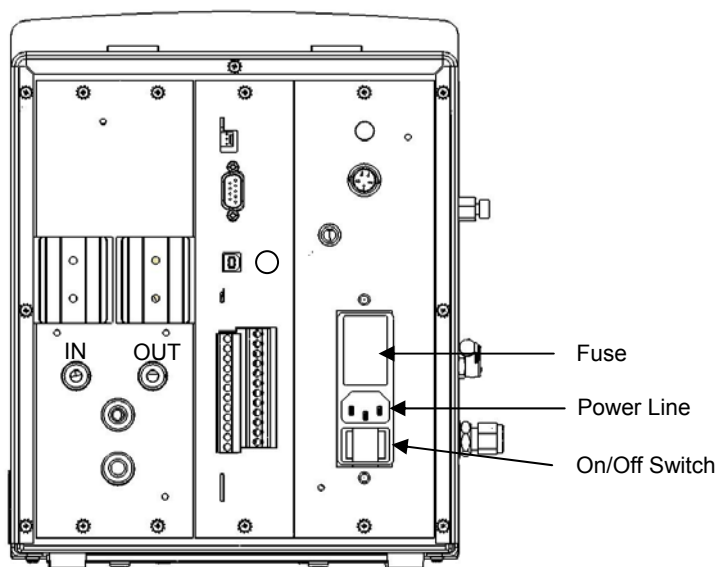
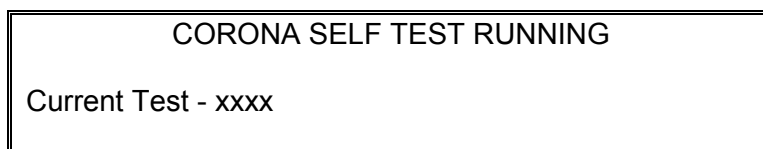

Figure 2-2: Rear Panel - Corona CAD Detector
Figure 2-12: The Corona Self Test Running Screen
Connect the power cord to the back of the system (Figure 2-2) and into a grounded outlet.
- a) Turn on the detector using the On/Off switch (located on the back of the detector Figure 2-2) and allow it to perform a Self Test. When the instrument is first powered up the display will present a number of diagnostic screens (e.g., Figure 2-12). The program will sequentially check individual sections of the detector. During this time the second line of the display will indicate the sequential progress through the testing procedures.